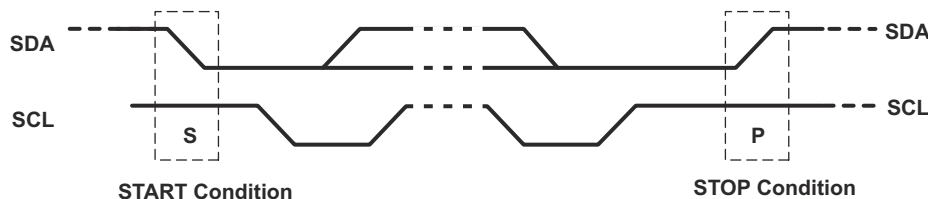

图 8-2. Definition of Start and Stop Conditions
Both data and clock lines remain high when the bus is not busy. A high-to-low transition of the data line while the clock is high is defined as the start condition (S). A low-to-high transition of the data line while the clock is high is defined as the stop condition (P) (see Figure 8-2).